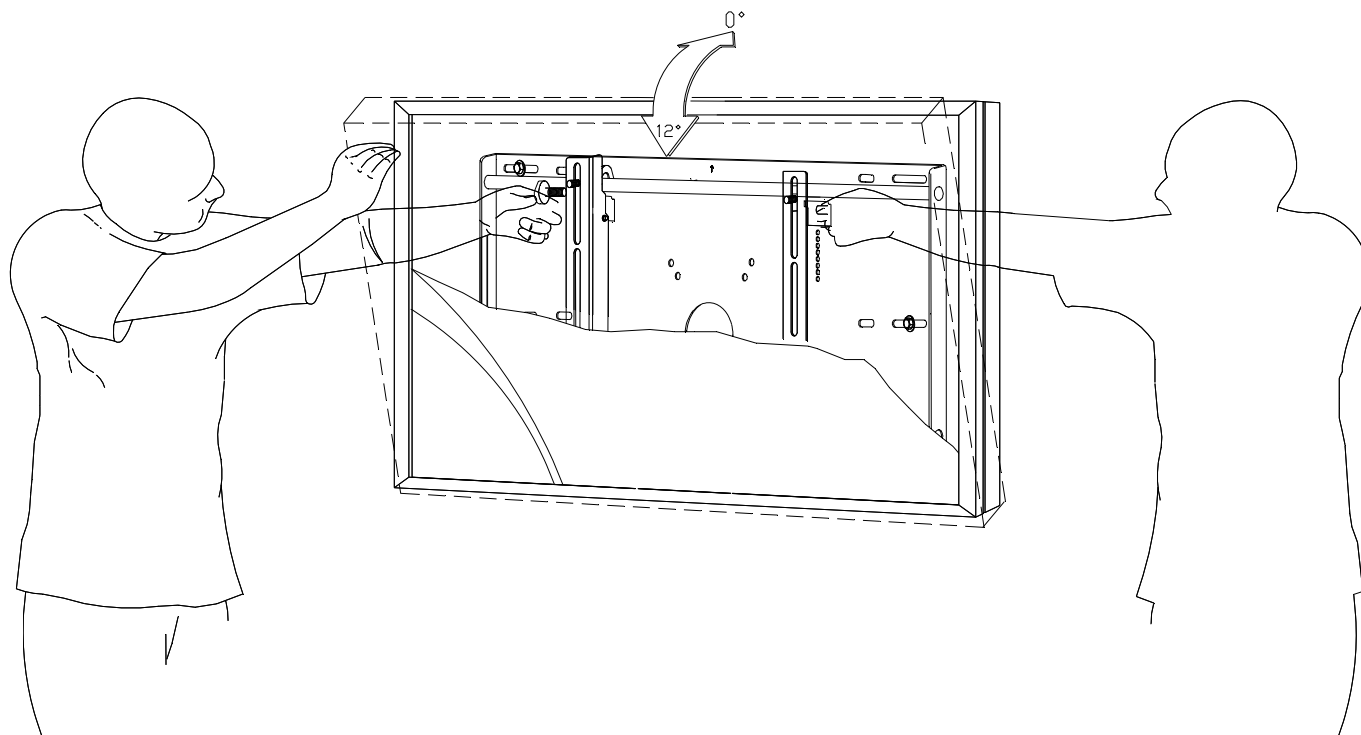

Figure 18
3. Tilt the flat panel and secure the two (2) M6 x 12mm safety knobs to each of the mounting brackets.
NOTE: To remove the display from the wall simply extend the display to its maximum tilt range, remove the two knurl knobs push the flat panel back to it's flat position, loosen or remove the two (2) M6 x 12 lateral shift screws and lift the unit off the wall (Figure 18).